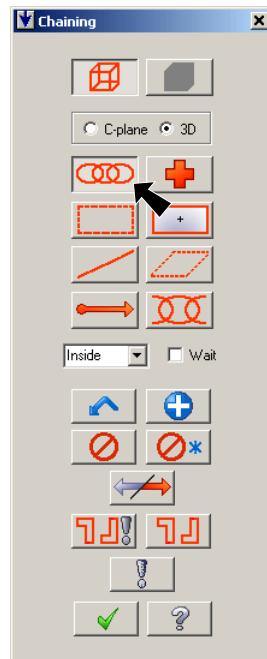

Fig. 11
Step 3. Click Chain in Chaining dialog box, Fig. 11.